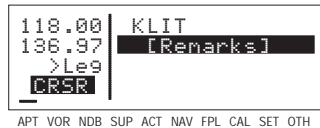

Figure 4-167
1. Turn on the cursor and move it until the cursor fills line 2 of the screen (figure 4-167).